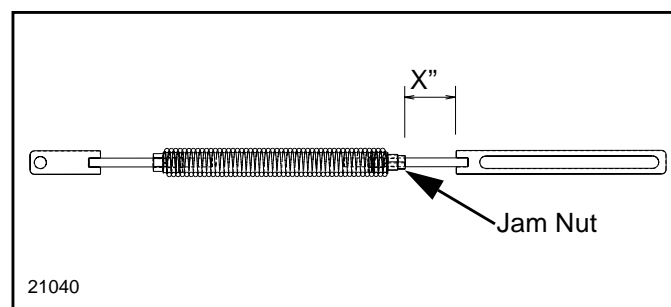

Figure 2-7
3. Refer to **Figure 2-7** below. Retract hydraulic cylinder to release upper spring tension and loosen jam nut. Adjust spring by turning it until "X" dimension is equal to the dimension represented below for your mower. This dimension should adjust pick-up weight of mower end to approximately 100 lbs when hydraulic cylinder is extended to field operating position. Retighten jam nut.